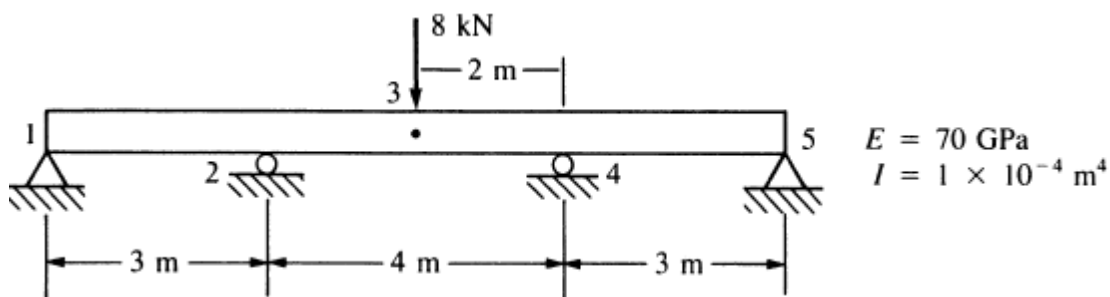

Figure P3.11
11. For the beam shown in **Figure P3.11**, determine the displacements and the slopes at the nodes, the forces in each element, and the reactions. Also, draw the shear force and bending moment diagrams.